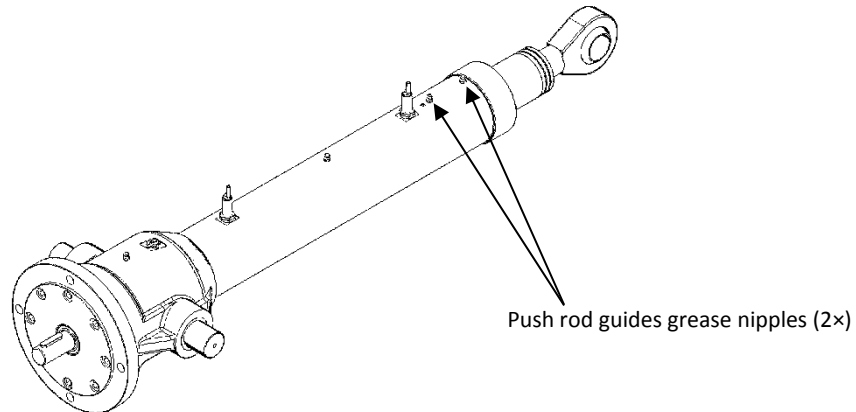

Figure 9.3 – Push rod guides lubrications
- Relube the push rod guides using proper grease nipples (n°2 grease nipples, as shown on Fig. 9.3).